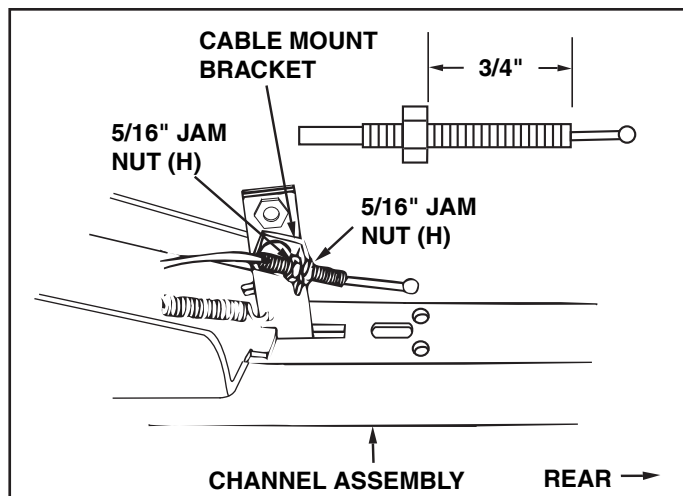

FIGURE 12 (Left Hand Side View)
22. Assemble one 5/16" jam nut (H) approximately 3/4" onto threaded end of control cable that has no rubber cap or preassembled nuts. Assemble threaded cable end through round hole in cable mount bracket and secure with another 5/16" jam nut (H). Tighten. See figure 12.
25. Align the cable mount bracket shown in figure 12 with the cable end fitting and tighten the carriage bolt and nylock nut.